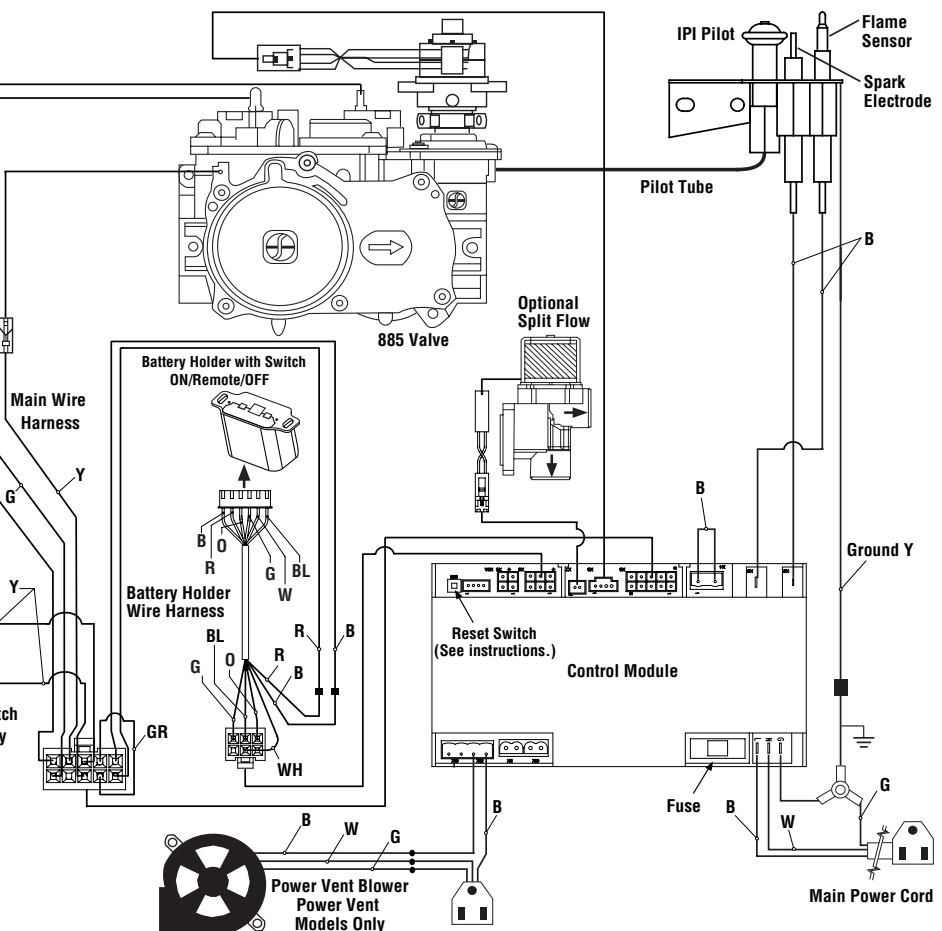

Figure 32
4. Connect the black power supply wire to the power outlet's red pigtail lead and the white power supply wire to the common terminal of the outlet as shown in *Figures 32 and 33*.